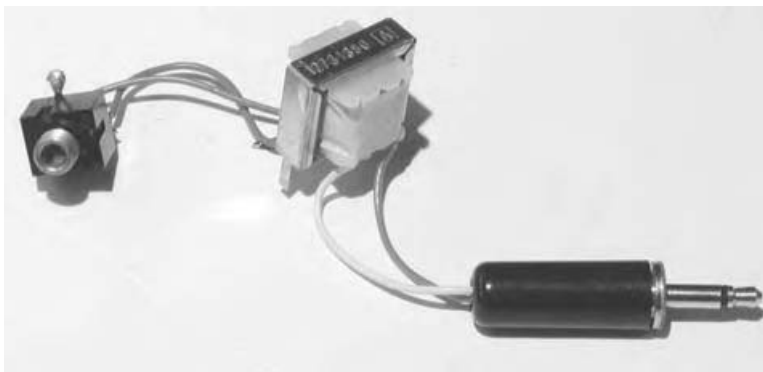

Figure 8.1 A transformer interface for driving a piezo disk.
3. Solder one of the *primary* wires to the tip connection of a female jack that mates with the plug you used on your contact mike (see chapter 7) Solder the other primary wire to the sleeve connection of the jack (see figure 8.1). Once again, polarity is irrelevant here—it does not matter which of the two primary leads goes to which connection.